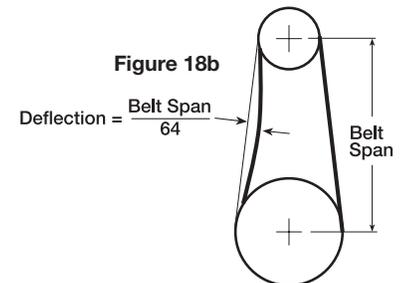

Figure 18b
- 8b. **Sizes 180-480:** Belt tension should be adjusted to allow 1/64 in. (0.397 mm) of deflection per inch of belt span. For example, a 15 in. (381 mm) belt span should have 15/64 in. (5.95 mm) (or about 1/4 in. (6 mm)) of deflection with moderate thumb pressure at mid-point between pulleys, see Figure 18b.